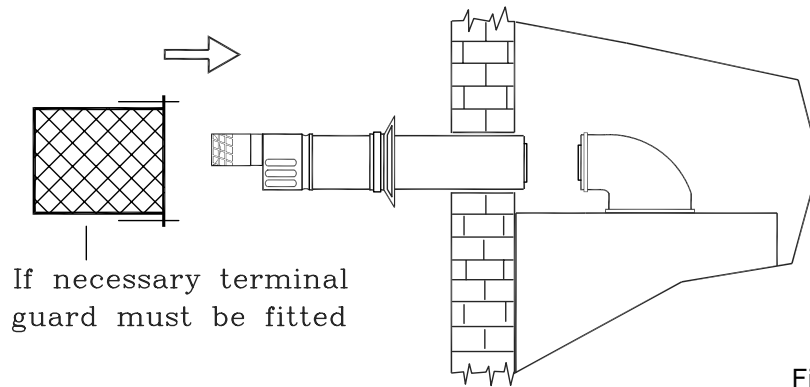

Fig. 21
**5.7.7** Working above the boiler pull the flue duct towards the elbow in order to engage tube into its header (Fig. 21). Position flue into straight header and push to locate inner and outer flue correctly. Ensuring good seal is made with o.rings.